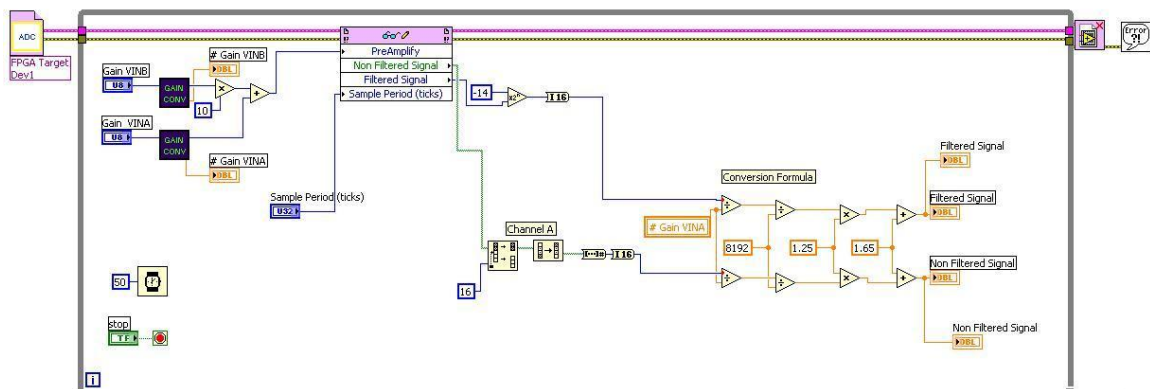

Figure 30: Final ADC VI
1. Go to the **Project Explorer** window and open the ADCHost VI. Your final ADCHost VI should look similar to Figure 30.